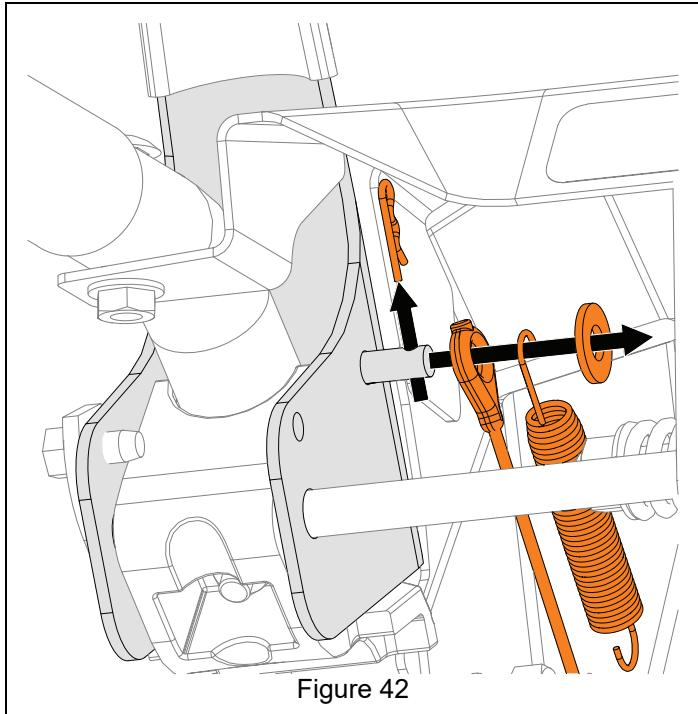

Figure 42
3. Under control panel, remove hairpin, washer and spring retaining upper traction clutch cable to clutch lever pin and disconnect cable. See Figure 42.
11. Under control panel, reconnect traction clutch cable to clutch lever pin. Install spring onto clutch lever pin and retain with washer and hairpin. See Figure 42.